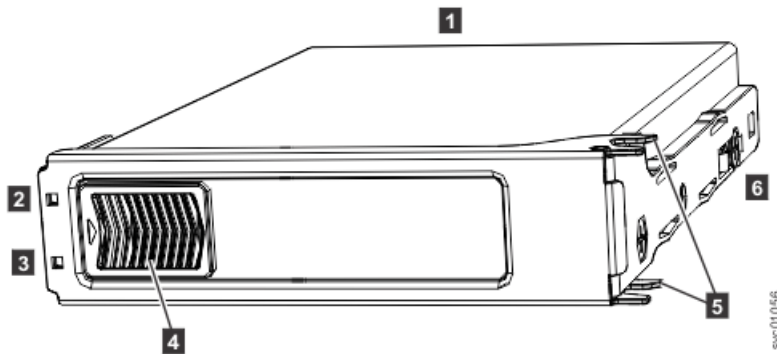

Figure 30. Drive assembly
The Model 092 expansion enclosure supports 92 drives. Figure 30 on page 50 shows an example of a drive assembly.
**Note:** When a drive is faulty, the amber fault indicator is lit (3 in Figure 30 on page 50). Do not replace a drive unless the drive fault indicator is on or you are instructed to do so by a fix procedure.